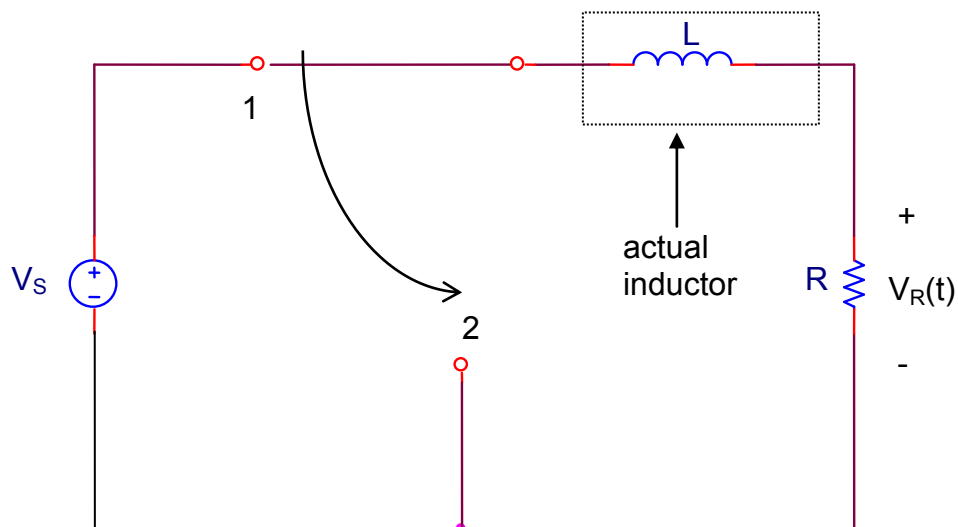

Figure 7.6
4. Assume the actual inductor in Figure 7.6 has a dc resistance, R_{DC} and an inductance, L . Find and sketch, $V_R(t)$, the voltage across the resistor.
¹NOTE: It is not necessary to use the pulse input here. You can analyze the circuit (for $t \geq 0$) as it is shown in Figures 7.6 & 7.7.